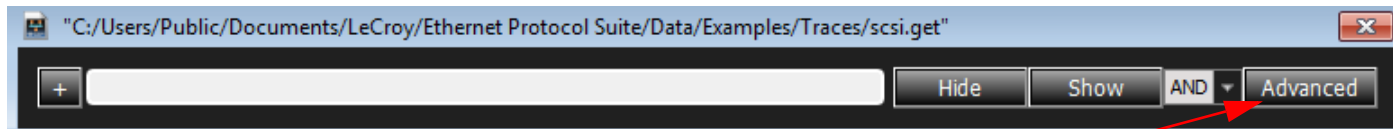
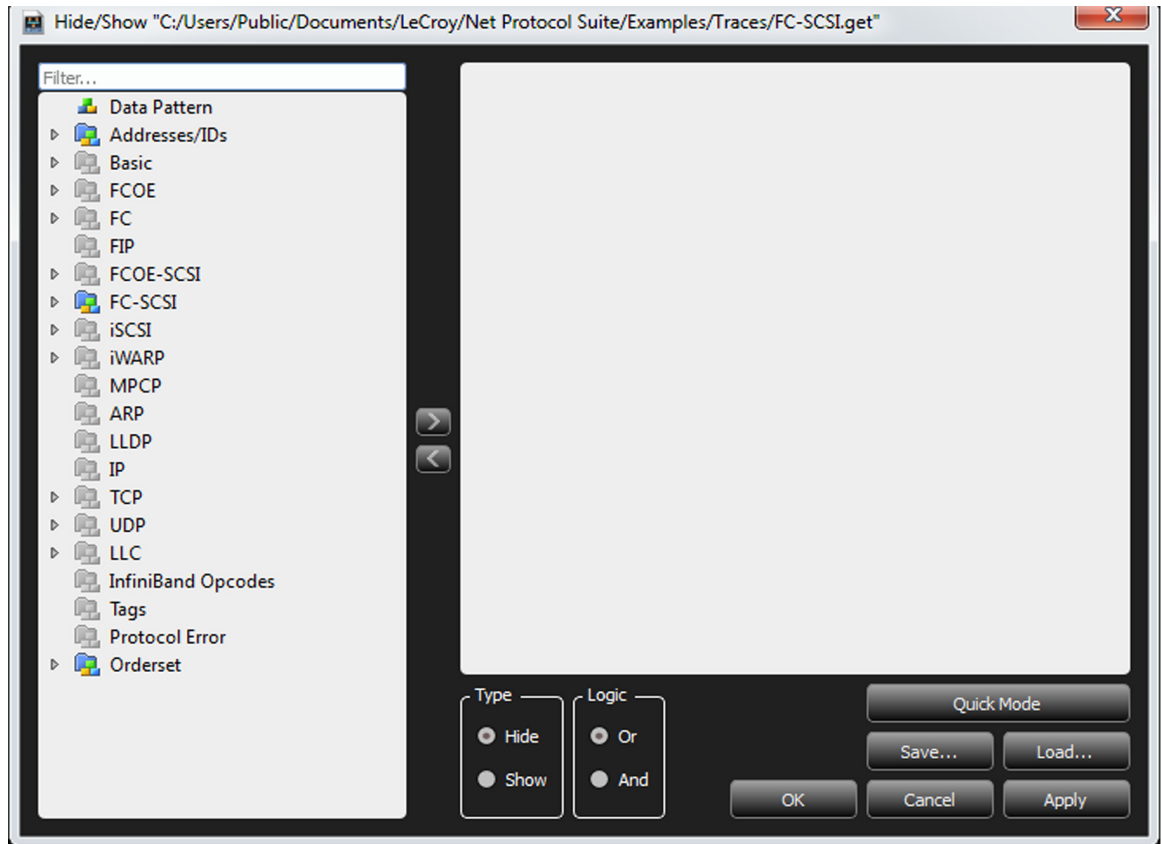

Figure 3.33: Quick Filter Dialog
Figure 3.35: Advanced Filter Dialog
To display the Quick Filter dialog (see Figure 3.33 on page 139), click the drop-down
Click the **Advanced** button (see Figure 3.33) on the Quick Filter dialog to display the Advanced Filter dialog (see Figure 3.35).
4. Select the command, double-click or right-click, and select **Match Fields**. The following filter dialog displays (see Figure 3.35 on page 140).